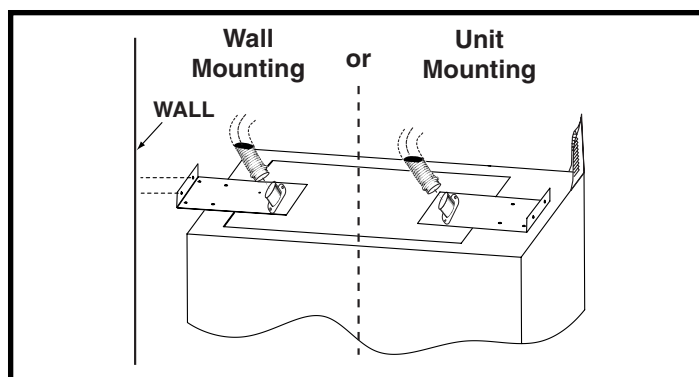

Figure 3. Downflow Electric Furnace with Heat Only
- **Electric Furnace, Heating only, no coil** - The bracket may also be mounted directly to the front of the electric furnace. In wall mounting applications, the bracket should be positioned at the rear of the unit with the entire bracket opening located over the return air inlet. See Figure 3 (page 3).